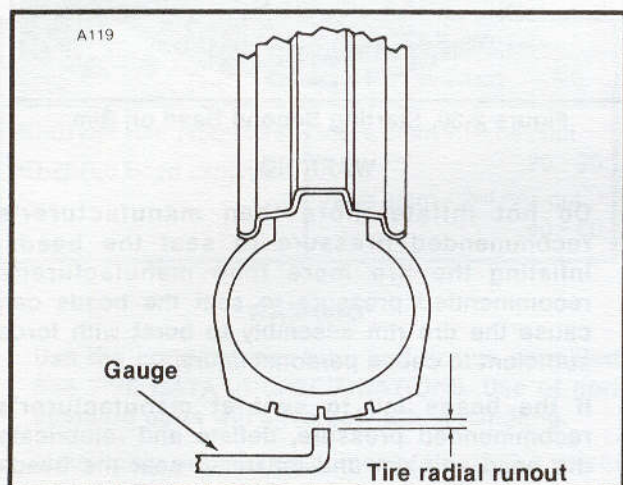

Figure 2-32. Checking Tire Radial Runout
1. See Figure 2-32. Check radial runout by turning wheel on axle, measuring tread runout.